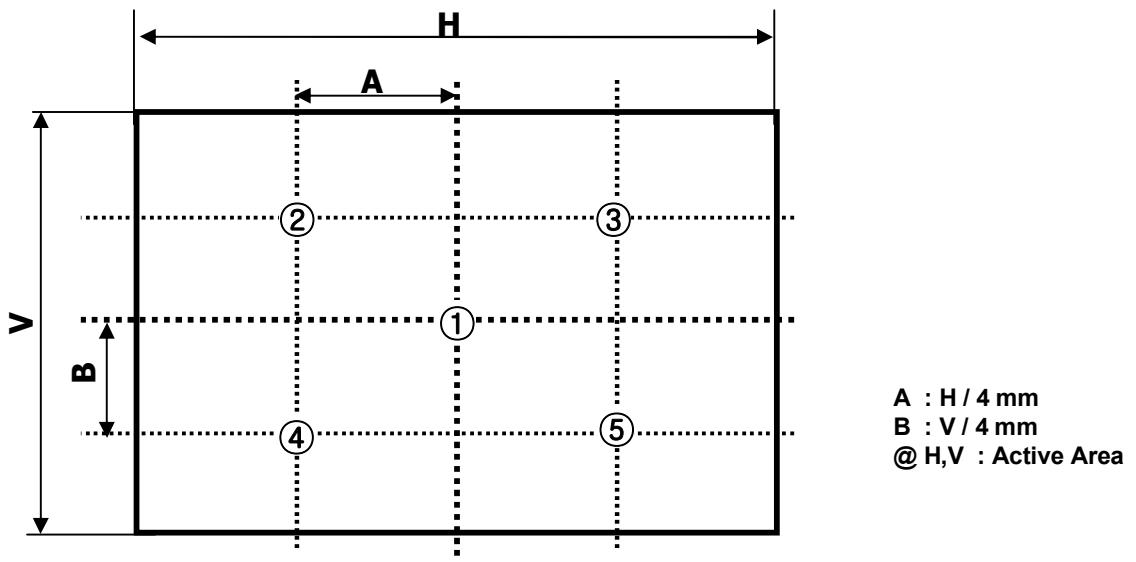

FIG. 2 5 Points for Luminance Measure
n = the Position number(1, 2, 3, 4, 5). For more information, see FIG 2.
2. Surface luminance are determined after the unit has been 'ON' and 1 Hour after lighting the backlight in a dark environment at  $25 \pm 2^\circ\text{C}$ . Surface luminance is the luminance value at center 1-point across the LCD surface 50cm from the surface with all pixels displaying white. For more information see the FIG. 2.
For more information, see the FIG. 2.